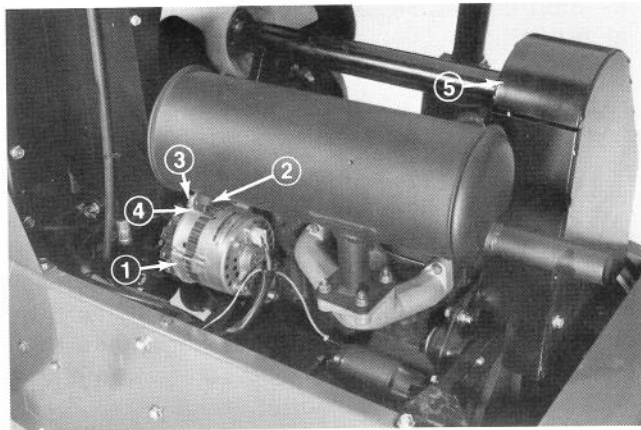

Figure 51
3. Loosen bolt securing brace to engine and bolt securing alternator to brace (Fig. 51).
4. Insert pry bar between alternator and engine and pry out on alternator (Fig. 51).
2. Remove capscrews (5) securing fan belt guard and remove guard (Fig. 51).
5. Install fan belt guard and secure with capscrews (Fig. 51). Close and latch hood.
- Install fan belt guard and secure with capscrews (Fig. 51). Close and latch hood.